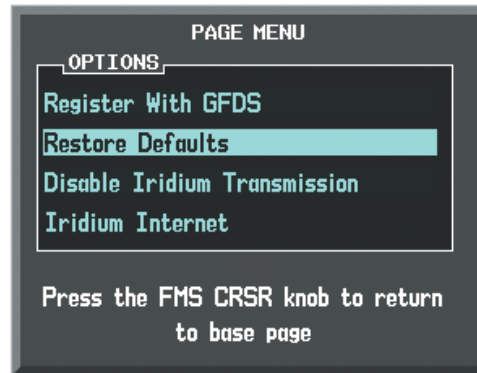

Figure 8-121 Restore Defaults
- 2) Turn the **FMS** Knob to select 'Restore Defaults' in the menu list as shown in Figure 8-121.